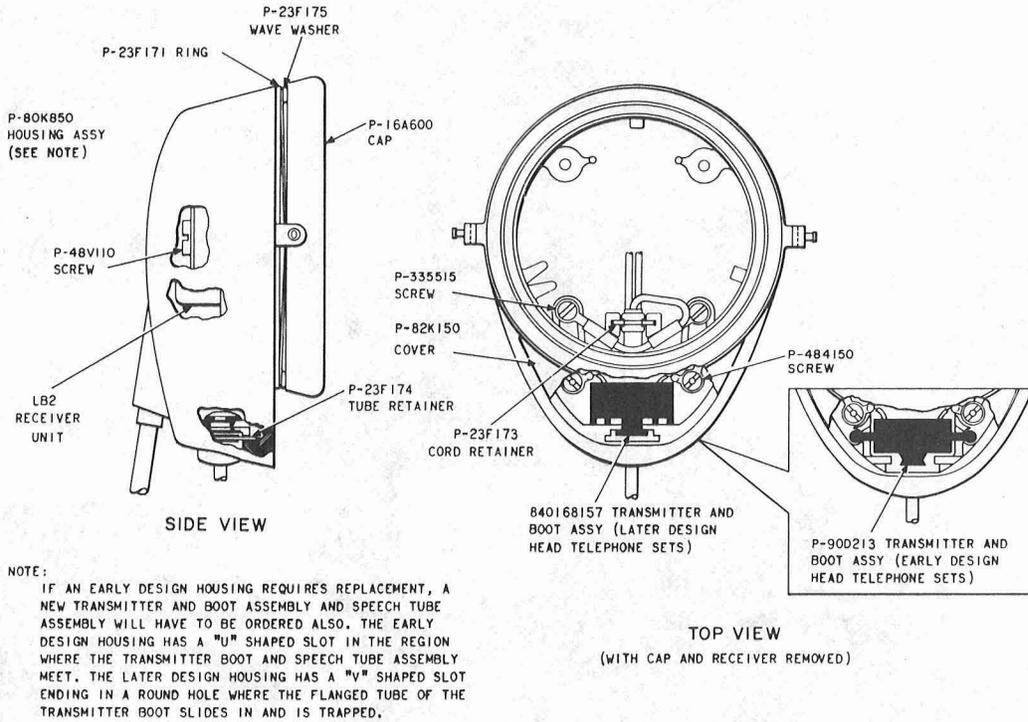

Fig. 3—Receiver-Transmitter Unit
3.04 Receiver Unit: Fig. 3—To replace the receiver unit, unscrew the cap from the housing assembly. Using the KS-6854 screwdriver remove the receiver terminal screws and remove the old unit. Substitute the new unit and connect the lead terminals. Dress leads not to pinch. Replace the receiver cap.
3.05 Transmitter Unit: Fig. 3—To replace the transmitter unit, unscrew the receiver cap from the housing assembly and remove the transmitter cover. Remove speech tube ball assembly as covered in 3.06. Using the KS-2348 screwdriver remove the transmitter terminal screws and remove the transmitter unit and boot assembly. Substitute the new unit and boot assembly and connect the transmitter lead terminals. Dress leads away from housing walls. Boot and transmitter assembly shall be positioned in a floating manner not bearing on any housing wall. Replace speech tube ball assembly and make sure the assembly is sealed to transmitter boot. Replace tube retainer. Replace the transmitter cover wave washer, headband receiver ring, and receiver cap.